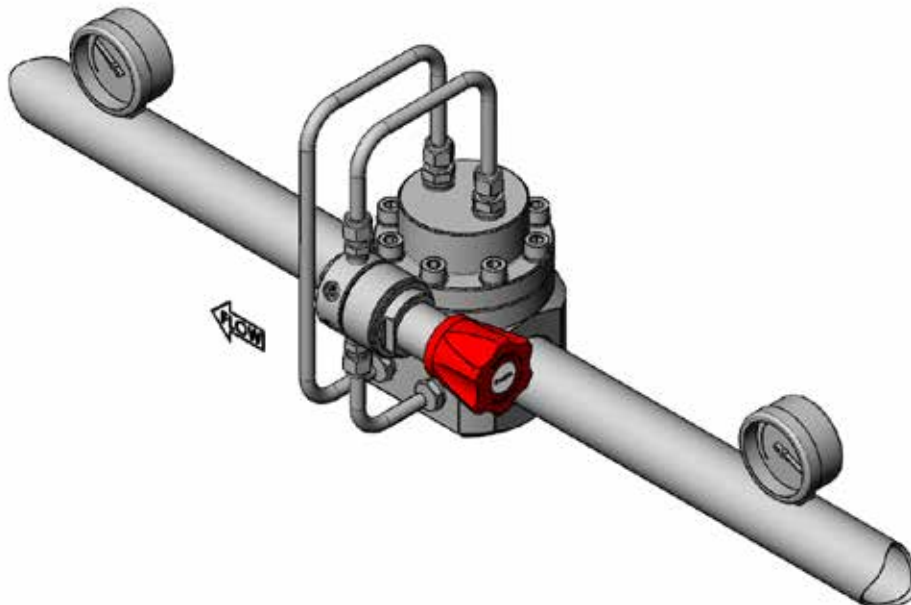
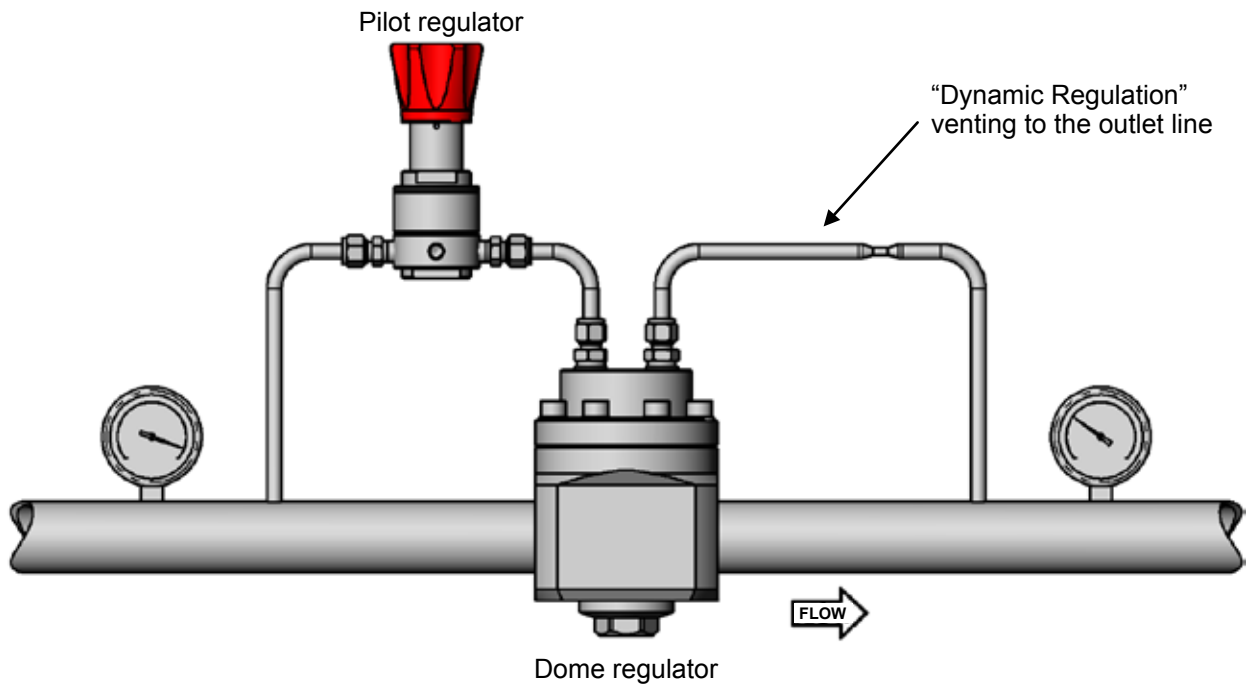

Fig 1
Fig 2
- The preferred mounting position of the regulator is horizontal with the dome facing upwards per Fig 1. Alternative mounting positions may increase the risk of component wear.
- **Integral pilot control.** In this setup the dome-loaded regulator comes supplied with a pilot regulator as part of the assembly (Fig 1). The pilot regulator, fed from the system pressure, is manually operated to control the dome pressure (Fig 2). This setup is not suitable for liquid applications.
The best performance will be achieved by allowing a small flow to continuously pass through the pilot regulator. This flow can either be vented through an orifice (Fig 3) or, in gas systems, fed back through an orifice into the downstream piping (Fig 2). This is usually referred to as “**dynamic regulation**”.